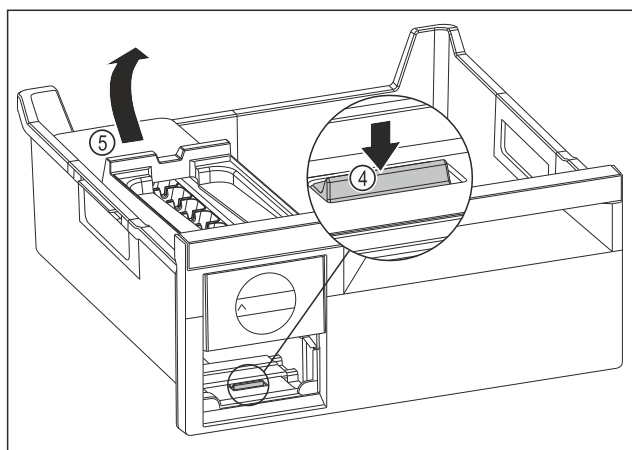

Fig. 68
- Removing the EasyTwist-Ice body: Use your finger to push the tab Fig. 68 (4) down and use your other hand to lift the EasyTwist-Ice body Fig. 68 (5) from behind at the same time.